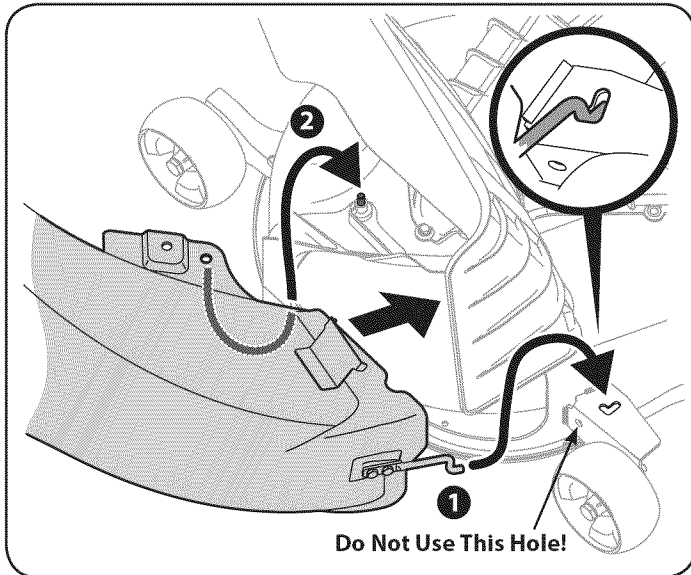

Figure 19
4. Insert the end of the discharge chute elbow (1) into the hole provided in the deck wheel mount as shown in the inset of Figure 19.
5. Pivot the discharge chute rearward until the hole in the discharge chute elbow aligns with the pin on the deck adapter. Move the discharge elbow down onto that pin as shown in 2 of Figure 19.